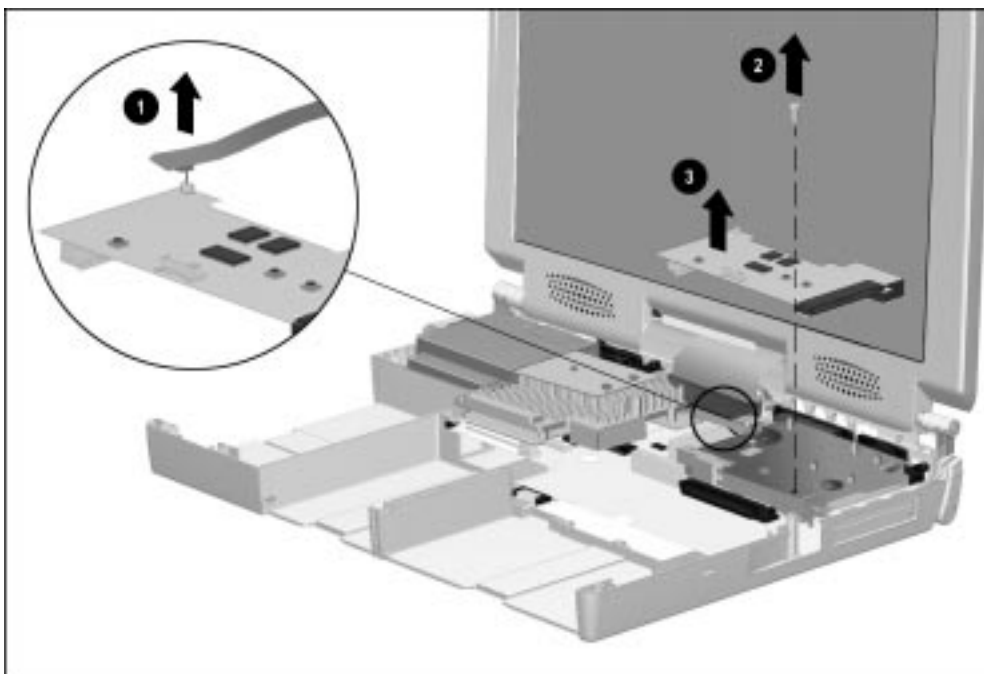

Figure 5-40. Removing the Modem Board
5. Disconnect the display audio cable from the modem board ❶ (Figure 5-40).